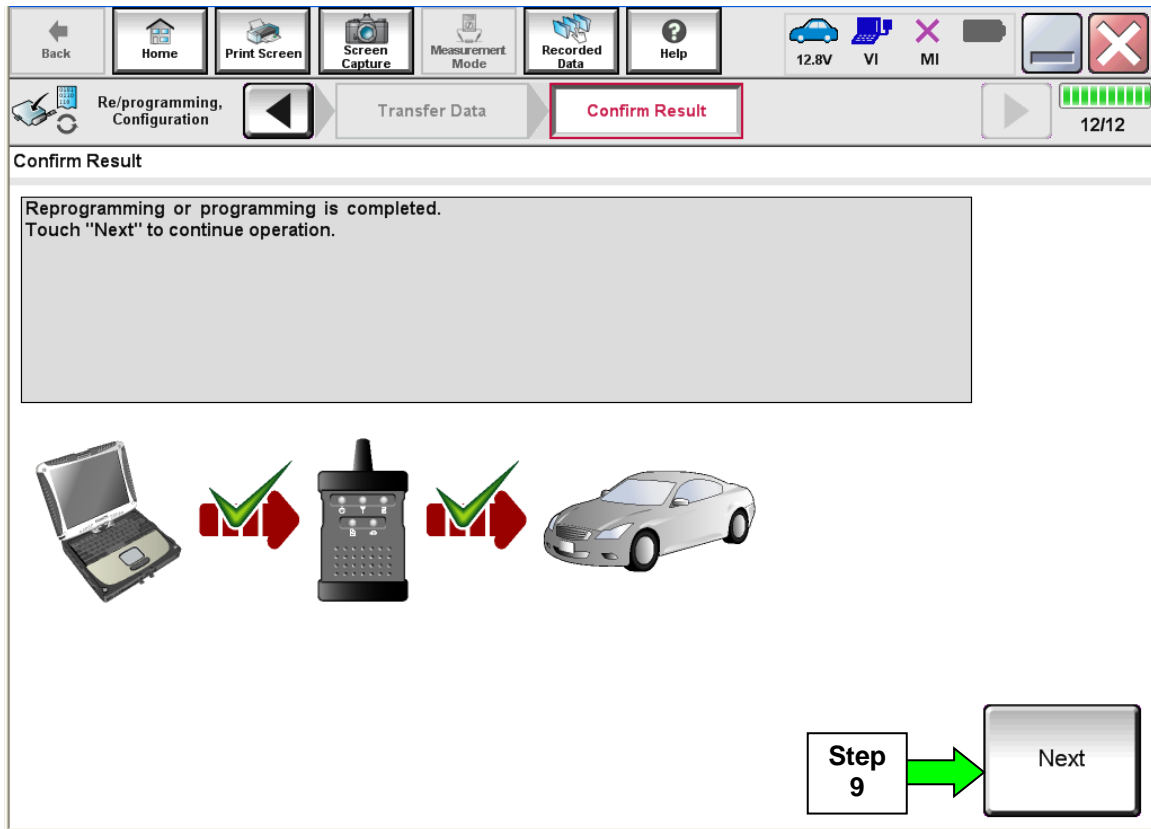

Figure 4
8. When the screen in Figure 4 displays, reprogramming is complete.
NOTE: If the screen in Figure 4 does not display (indicating that reprogramming did not complete), refer to ECM Recovery on the next page.